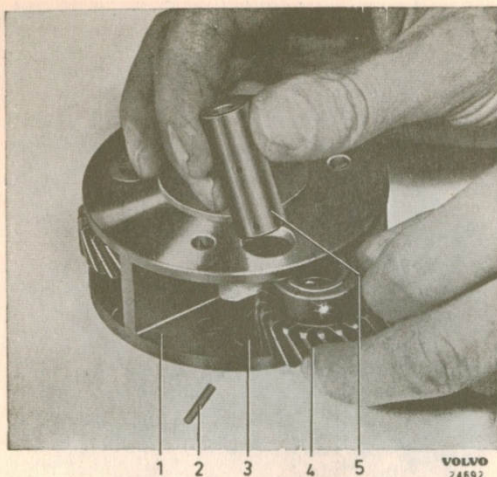
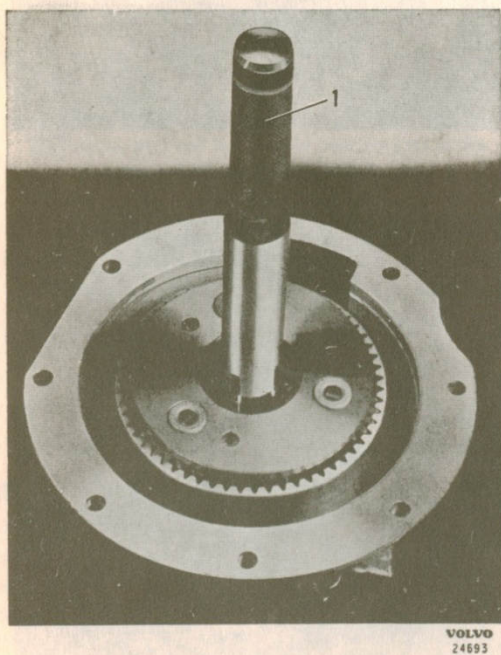
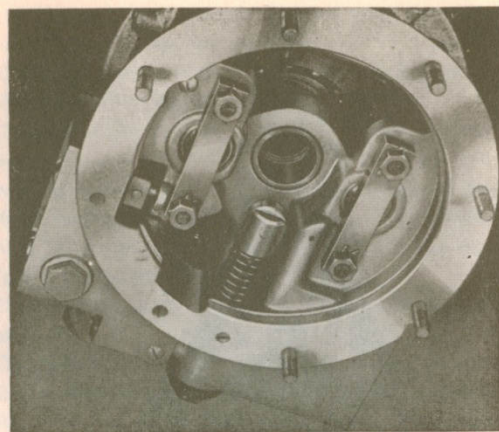

Fig. 3-56. Fitting a planet wheel, I
Fig. 3-57. Fitting a planet wheel, II
Fig. 3-58. Assembling front housing half
5. Press the needle bearings (37) in the planet wheels (36) with drift SVO 2417. The bearings should lie slightly below the side surfaces of the wheels. Assemble the planet wheel carrier, shaft, washers and planet wheels, see Fig. 3-56. Guide the splines into the planet wheel carrier and free wheel hub with drift SVO 2420, see Fig. 3-57.
6. Fit the sun wheel (44) into the clutch disk (41). Fit bolts, thrust bearing and thrust bearing retainer. Fit the thrust bearing on the clutch disk.
7. Fit the plungers (14) in the front housing half. Assemble the clutch disk, brake drum (39), pressure springs (52), front housing half and pressure plates (48, 54) into one unit, see Fig. 3-58. When